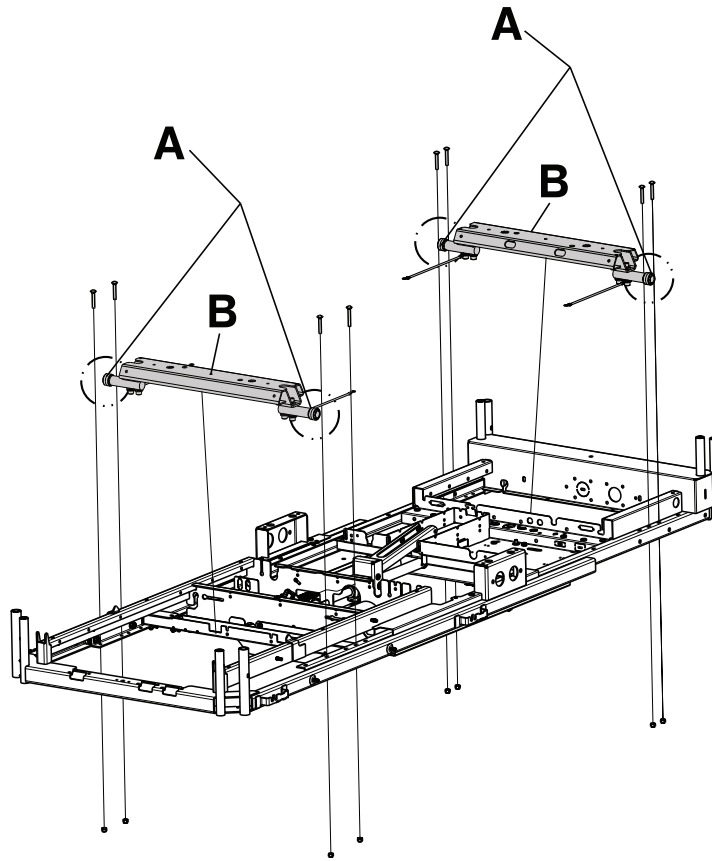

Figure 20 – Litter assembly
1. Apply Syn-Tech NS-18191-G grease (3000-200-719) to the rollers on the lift header assembly (Figure 20).